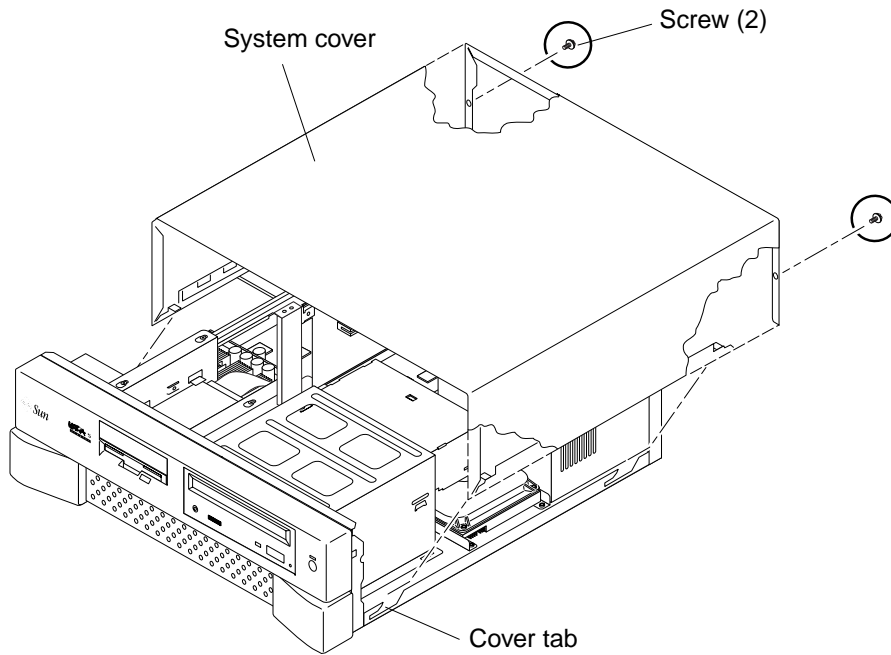

FIGURE 1-8 Replacing the Ultra 5 System Cover
2. Replace the Ultra 5 system cover as follows (FIGURE 1-8):